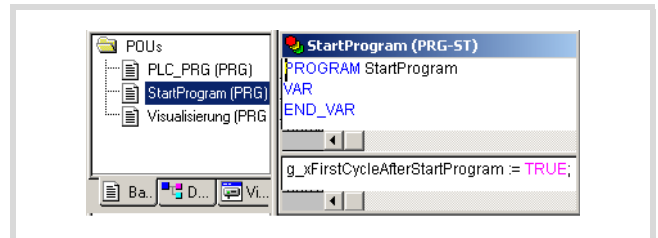

Figure 97: Creating the "startprogram"
- Write the program "StartProgram" as in → figure 97.